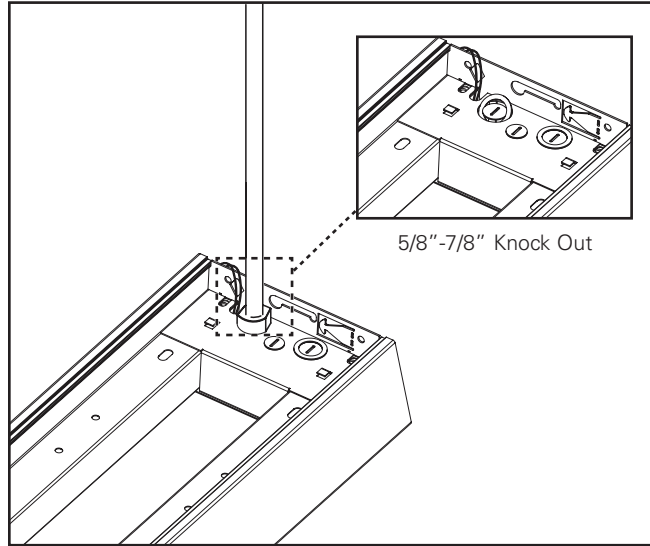

Figure 4.
1. Break off appropriate KO, slide power cord through KO opening, then secure power cord with strain relief. (Figure 4.)